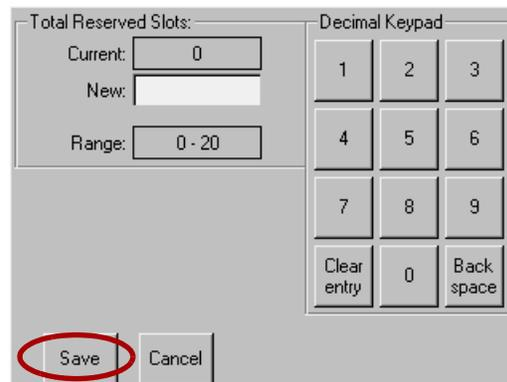

Figure 3-9: Reserved Slots Numeric Keypad
3. Use the keypad to enter the number of slots you want to reserve, and press **Save** (Figure 3-9).